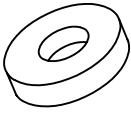

FIG. 1
- 1. WEATHER WARNING ! DO NOT ERECT YOUR BUILDING ON A WINDY DAY. ANY BUILDING LEFT PARTIALLY CONSTRUCTED MAY BE SERIOUSLY DAMAGED (FIG.1).**
- 3. ALL ASSEMBLY OPERATIONS MUST TAKE PLACE ON A COMPLETELY LEVEL SURFACE (FIG. 1)**
PARTIELLEMENT MONTÉ, LES PIÈCES POUVANT ÊTRE ENDOMMAGÉES (FIG. 1).
- 3. TOUTES LES OPÉRATIONS DE MONTAGE DOIVENT ÊTRE RÉALISÉES SUR UNE SURFACE PLANE (fig 1).**